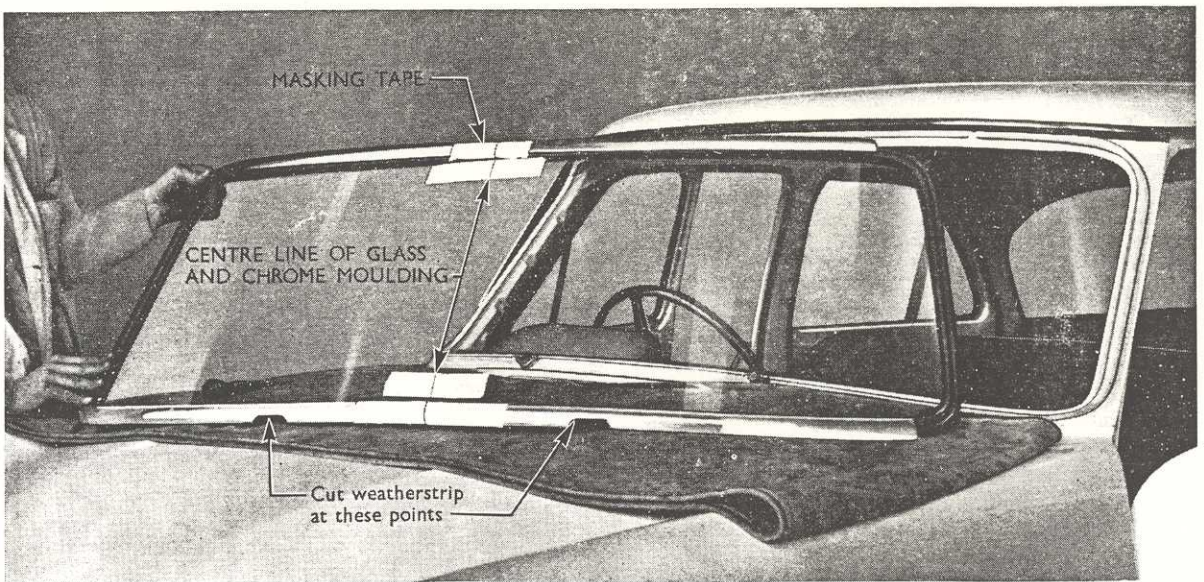

Fig. 4
2. Stick two pieces of white tape to the top and bottom mid-positions of the windscreen, and mark on the tape the centre of the windscreen glass (see Fig. 4).
4. Fit the weatherstrip to the glass, lubricate the appropriate weatherstrip groove and press the transverse chrome mouldings into the weatherstrip so that the centre marks of chrome strips and windscreen coincide (see Fig. 4).